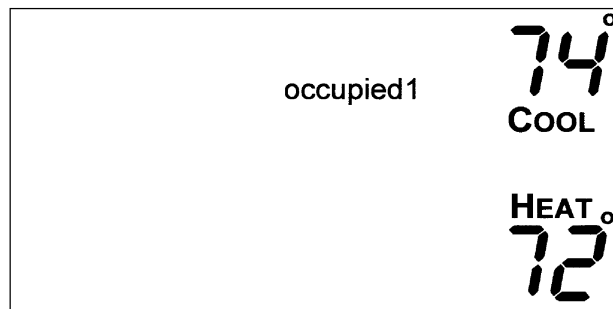

Fig. 5 — Setting Occupied 1 Set Points
1. Enter programming mode by pressing the Program button. The Occupied 1 annunciator will appear on the thermostat display. See Fig. 5. Use the UP ARROW and DOWN ARROW buttons to set the maximum number of Occupied periods available. The thermostat can be set to 1, 2, or 3. After the number of Occupied periods has been selected, press the Mode button.
2. The cooling set point for Occupied 1 will be displayed. Use the UP ARROW and DOWN ARROW buttons to raise or lower the cooling set point until the desired temperature is shown. The range of acceptable values is 35 to 99 F (1 to 37 C). Press the Mode button to continue. See Fig. 5.
3. The heating set point for Occupied 1 will be displayed. Use the UP ARROW and DOWN ARROW buttons to raise or lower the heating set point until the desired temperature is shown. The range of acceptable values is 35 to 99 F (1 to 37 C). Press the Mode button to continue. See Fig. 5.